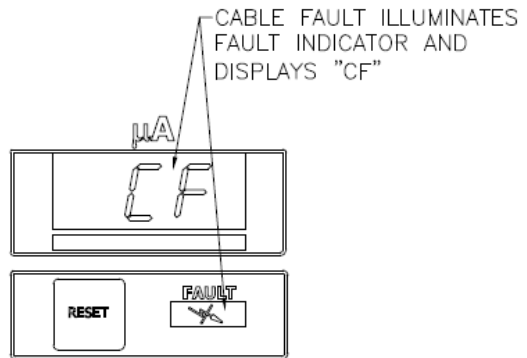

Figure 11: Cable Fault Display
- Remove the high voltage (HV) cable from the power supply.
- Open the cabinet door and position jumper J8, shown in Figure 11, on the main PC Board so that it covers (shorts) both terminals.